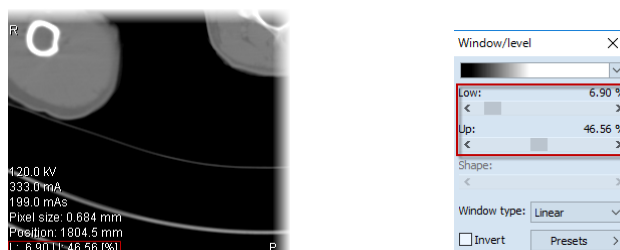

Figure 157 – Window/level tool and a view with the LU[%] adjustment type
- **Low/Up [%]** – the Low value defines the lower (start) limit and the Up value defines the upper (end) limit in percentage of the image data values displayed in the view (see Figure 157).
To change the current adjustment method, select the required method in the **Adjustment type** combo box on the **Modality** tab of the **Options** dialog (see 4.2 Modality options). For the specified modality the window/level information string in the views (the view texts) as well as in the **Window/level** tool is formatted according to this option (see Figure 157).